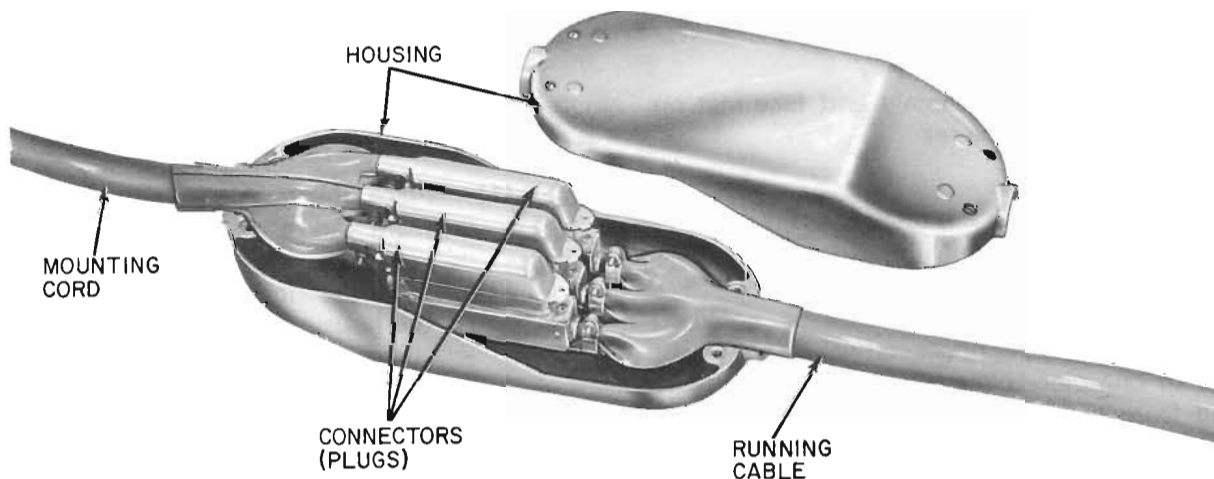

Figure 8. Mounting Cord Plugs Connected to Running Cable Receptacles (Cover Off).
- (1) Place the telephone set in the location in which it will be used.
- (2) Mount one side of a connector housing on a wall or the floor within reach of the 8-foot long mounting cord (Figure 8). Cord terminations of the D120C and the D200F are given in Table 2.
- (3) Connect the plugs of the running cable into the receptacle of the mounting cord, and place the connectors inside the mounted half of the connector housing of Step 2.
- (4) Install the second half of the connector housing.